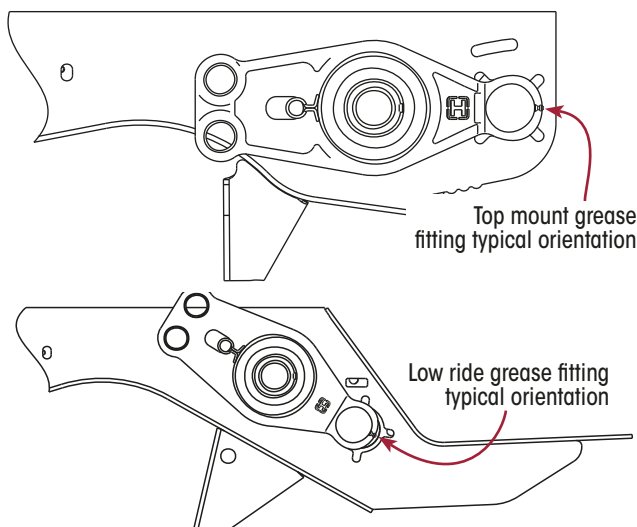

Figure 74: INTRAAX Accessible Grease Fitting Orientation
4. Rotate the cam tube so the grease fitting is accessible (either pointing downward or to the rear) when the drums are installed (refer to Figure 74).
2. Rotate the cam tube so the grease fitting is accessible and pointing rearward (refer to Figure 74).